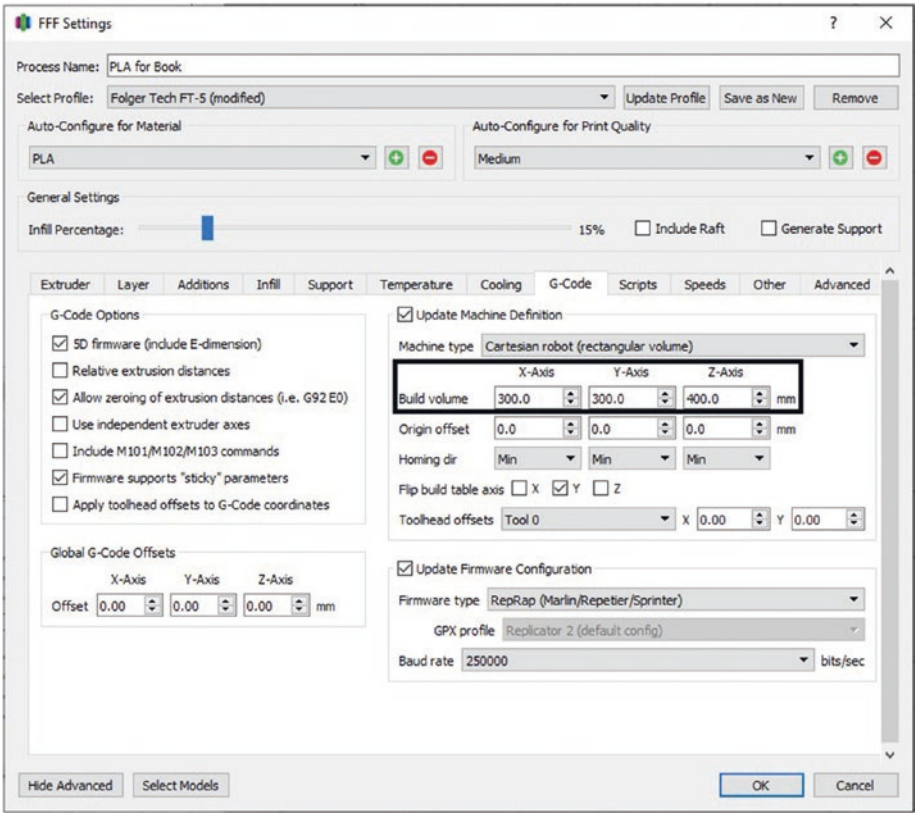

Figure 4-26. G-Code tab
8. Tab 8: G-Code (see Figure 4-26)